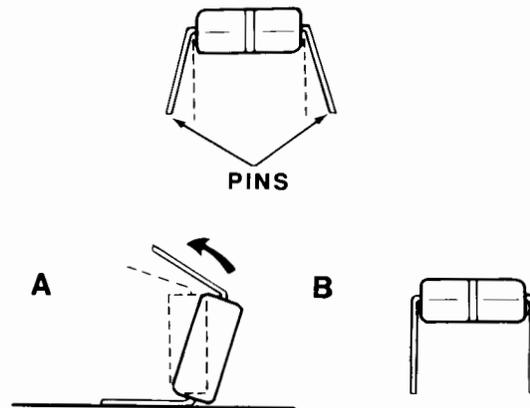

Figure 2-2. Rolling to Straighten the Pins
- b. Lay the coprocessor on its side, as shown in Figure 2-2, and roll it very carefully toward the pins to straighten them.